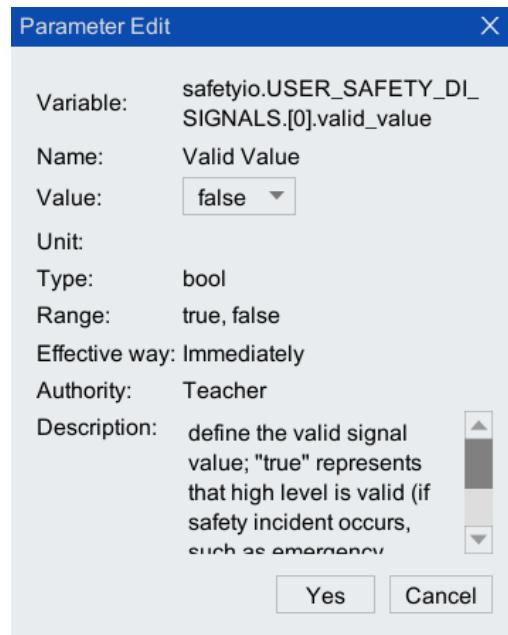

Figure 3-4 [Valid value] configuration interface
Step5. Click to select the row of [valid_value], click <Edit>, the configuration interface as shown in Figure 3-4 will pop up, and configure the parameter in [Value] to be "false (active low)".